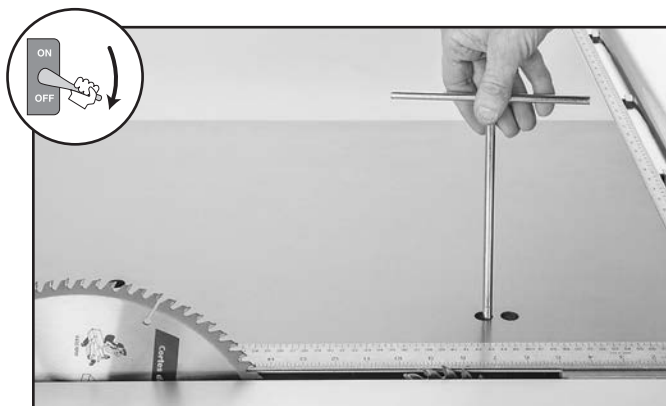

Figure 91. Adjusting vertical height of scoring blade.
- b. Inserting T-handle wrench into left hole shown in **Figure 91**, engaging it with adjustment bolt under table, then rotating wrench to position scoring blade, so edge of scoring blade teeth are aligned with main blade teeth.